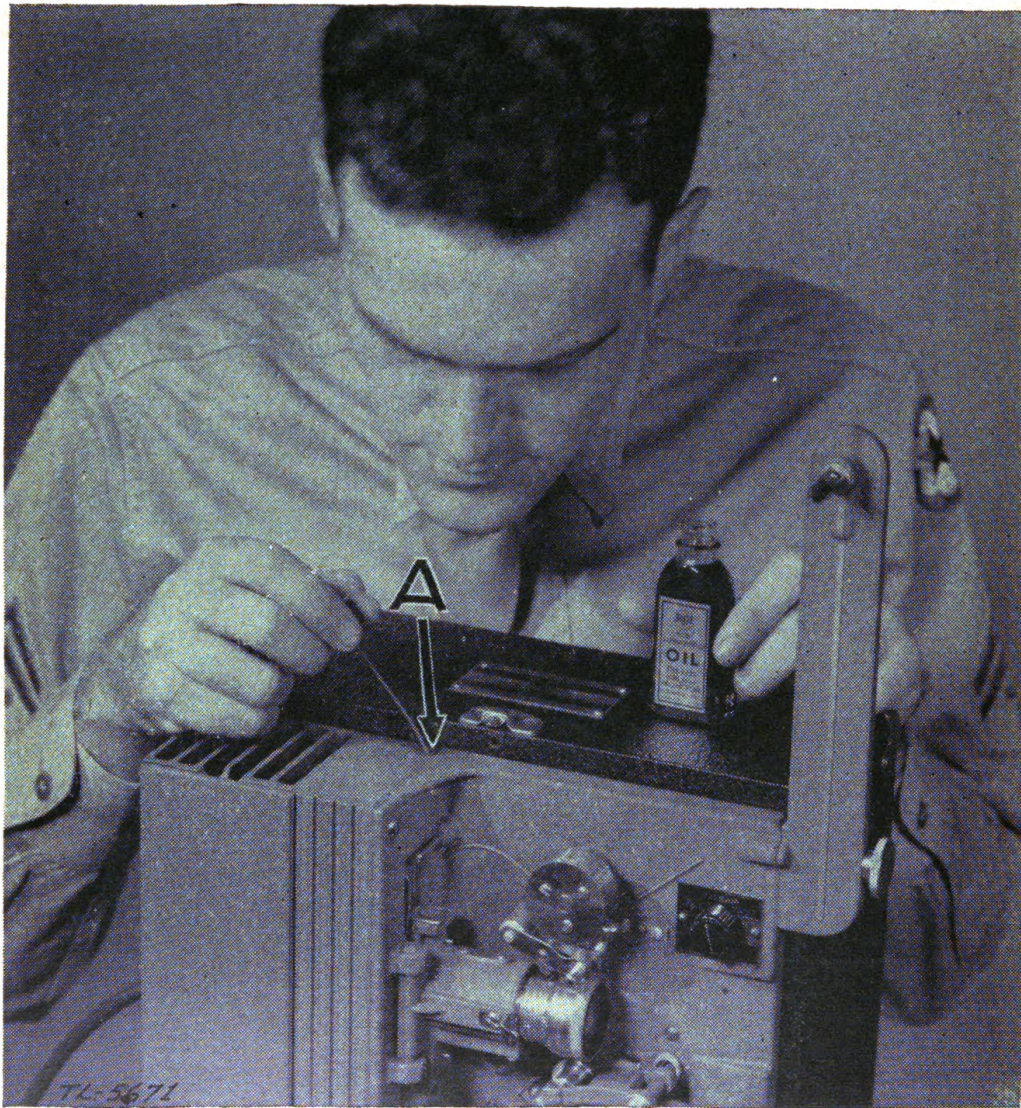

FIGURE 59.—Oiling system for R. C. A. projector.
d. R. C. A.—Before each showing, place five drops of oil in channel A. This provides complete lubrication for all moving parts. (See fig. 59.)